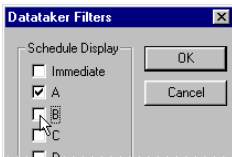

FIGURE 69 Schedule filter
- j) In the dialog box that opens (Figure 69), notice that you can select which schedules' data is returned to the text window's display screen.